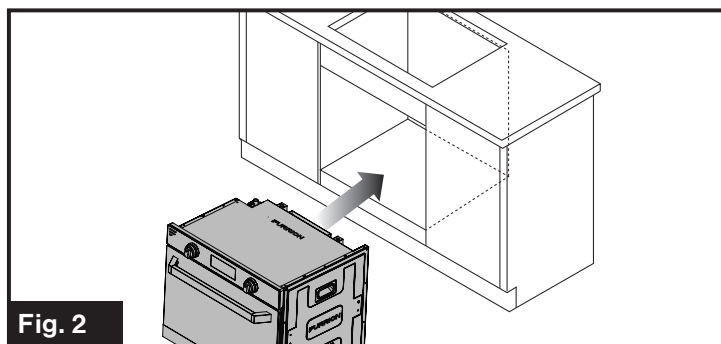

Fig. 2
1. Remove the oven from its packaging and slide the oven into the cabinet opening. (Fig. 2)